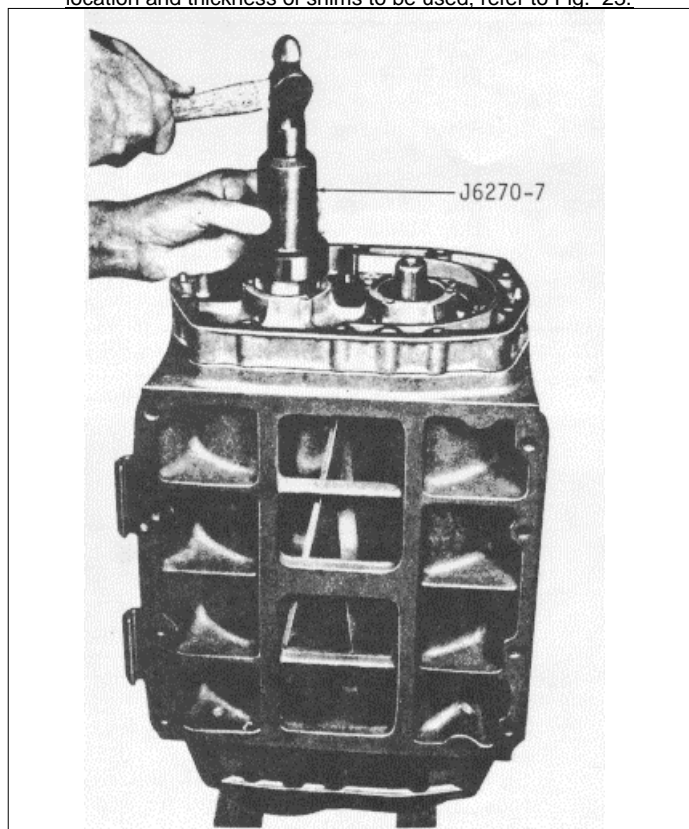

Fig. 19
- (4) Position the end plate cover over the end plate dowel pins, with the large hole in the cover toward the top of the end plate, then push the cover against the end plate. Install the ten bolts and lockwashers. Tighten the bolts to 13-17 ft-lbs (18-23 Nm) torque.
- (5) Install the ball bearings on the rotor shafts and in the rear end plate as follows:
- (a) Reverse the position of the blower housing on the two wood blocks (Fig. 19).